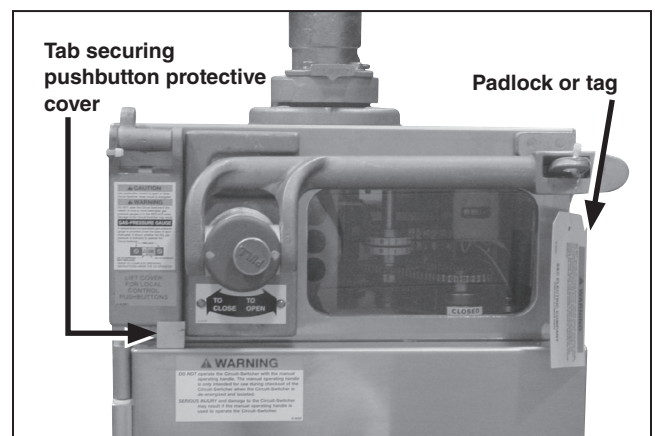

Figure 10. The MANUAL OPERATING handle tagged and/or padlocked.
- STEP 2.** Make sure the MANUAL OPERATING handle is in the **Storage** position and tagged or padlocked. See Figure 10.
- Note:** Unlocking and opening the door is necessary because a tab on the main door secures the pushbutton protective cover. See Figure 10.